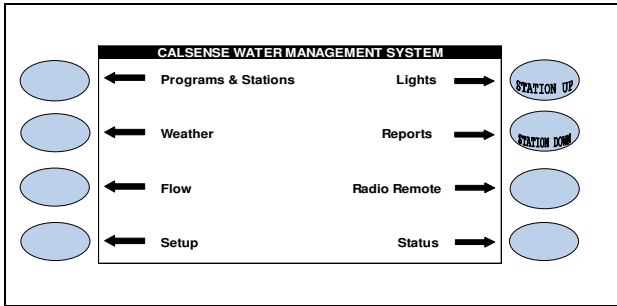

Figure 1
2. Press the **WEATHER** menu key (Figure 1).